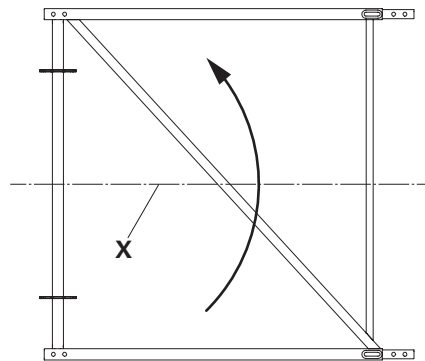

Fig. A1.08a
1. Turn Intermediate Element URB (7) by 180° around the x-axis. (Fig. A1.08a + A1.08b)